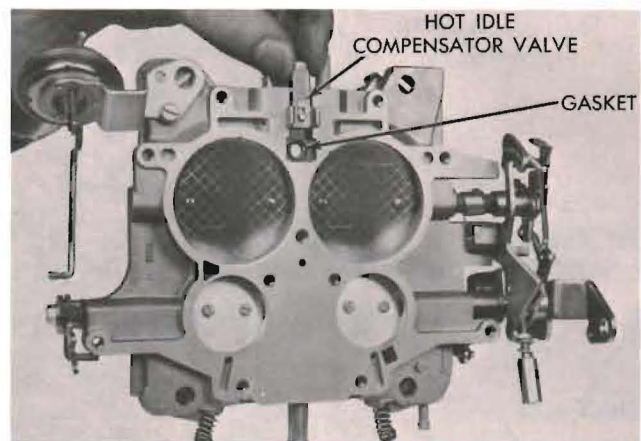

Figure 12. Removing or Installing the Hot-Idle Compensator Valve
- (1) Remove the screws that hold throttle valves to the throttle shaft.
- (2) Slide the damaged throttle valves out of their bores. It should be noted at this time, that the numbered side is on the bottom (carburetor mounting flange) side and opposite the vacuum port.
- (3) Slide new throttle valves in position on throttle shaft, with the valve number on the bottom (flange side) and opposite the vacuum port.
- (4) Install new screws, but do not tighten. Make sure the idle speed adjusting screw is backed out. Hold valves in place with fingers (fingers pressing on high sides of valves).
- (5) Tap valves lightly in this position, then tighten screws securely. Support the throttle shaft and stake each screw. Operate the throttle shaft, from closed to open position. It should operate smoothly without dragging or sticking. Hold the throttle body up to a strong light. The light visible around the outer diameter of the valves and the bores should be uniform.
- (6) Install secondary throttle valves in the same manner as described for the primary valves. The numbers stamped on the secondary valves must be positioned toward the primary bores. (For adjustment instructions refer to "Secondary Throttle Adjustment".)
- (7) Install idle mixture screws and springs in the throttle body. The tapered portion must be straight and smooth to insure having correct idle mixture control. Do not use a screwdriver but turn screws lightly against their seats with fingers. Back off the number of turns counted during disassembly. Do not install limiter caps at this time.
- (8) Install the hot-idle compensator valve gasket in recess of throttle body; then install the hot-idle compensator valve. (See figure 12.)